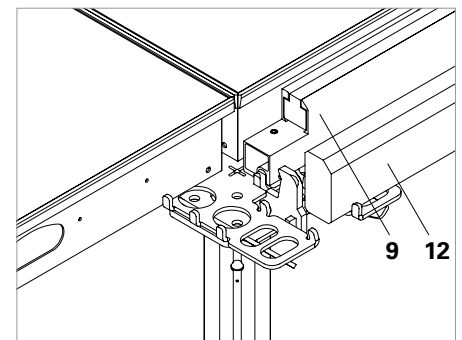

Fig. A5.13
- Edge Beam SRT-2 (9) and Filler Timber SPH (12) or timber provided by the contractor with  $b = 3.8 - 8$  cm and  $h = 9.8$  cm. (Fig. A5.13)